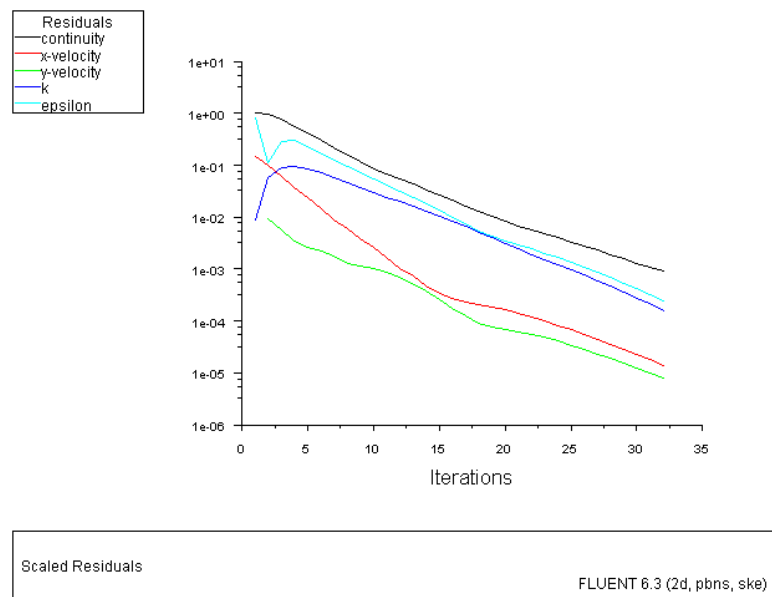

Figure 3: Scaled Residuals
3. Start by requesting 100 iterations (Figure 3).